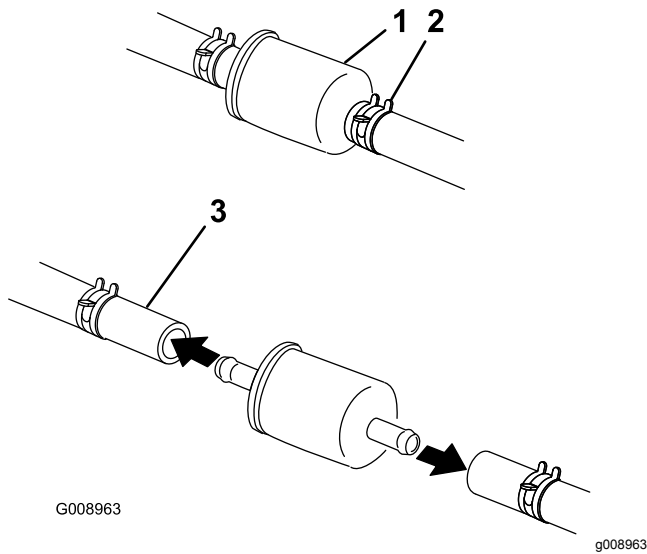

Figure 58
4. Close the fuel-shutoff valve under the seat (Figure 58).
5. Squeeze the ends of the hose clamps together and slide them away from the filter (Figure 58).
7. Install a new filter and move the hose clamps close to the filter (Figure 58).